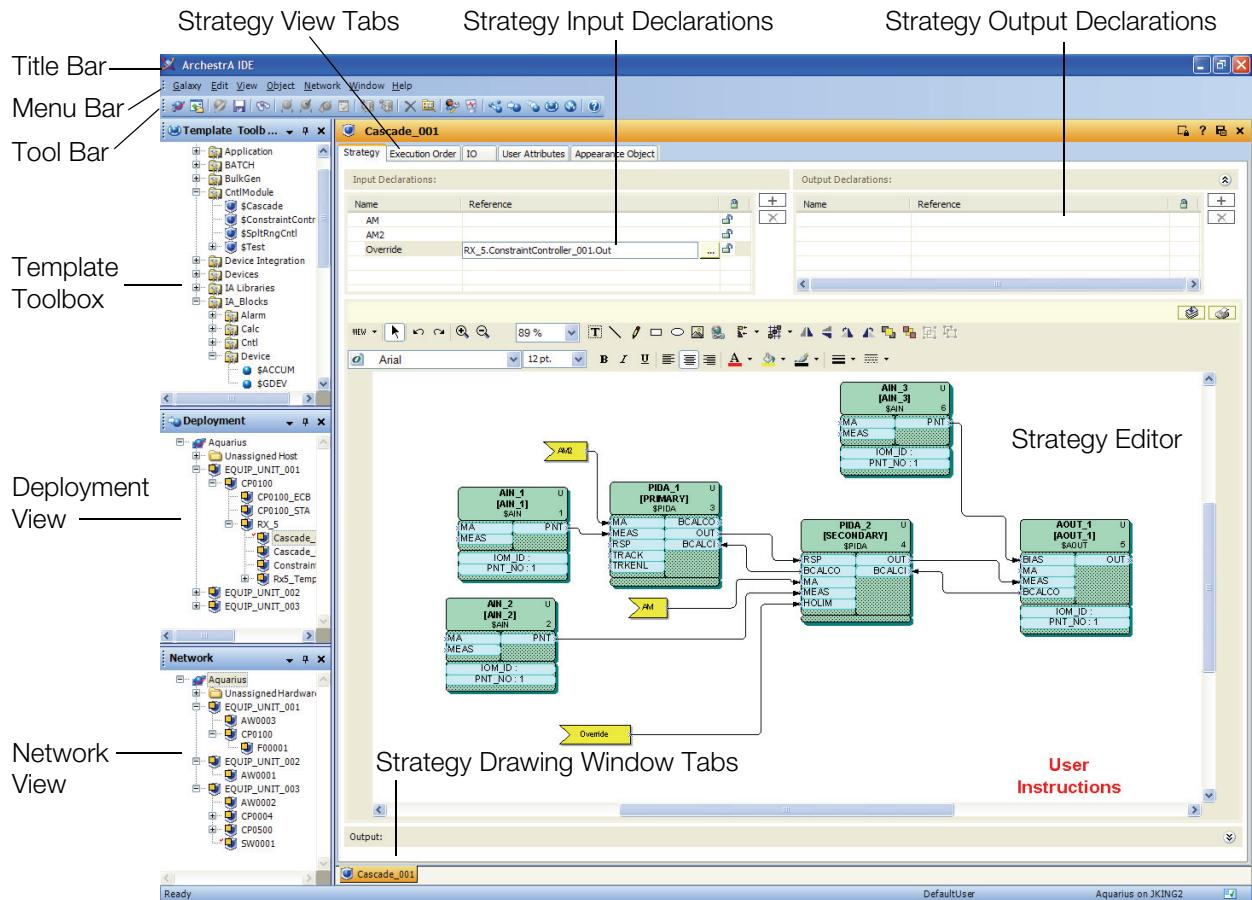

Figure 1. Foxboro Control Software Configuration Tools Navigation
The FCS Configuration Tools provide graphical design, configuration, deployment and commissioning tools for I/A Series Version 8.6 and later systems, such as PROFIBUS and FOUNDATION Fieldbus (FF). The graphical design tool for Strategy construction is shown in Figure 1.
The Foxboro Control Software (FCS) Configuration Tools are constructed using the Microsoft® desktop metaphor and include several menus, tool bars and views, such as the Template Toolbox and Network View as shown in Figure 1. The Strategy Editor Area provides a drawing canvas and associated tables and Winforms used for the graphical construction of control strategies.